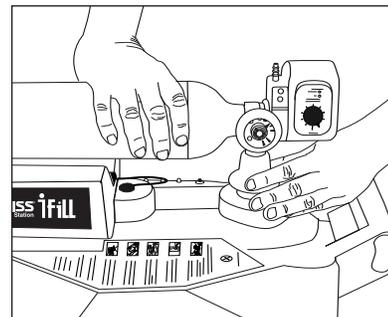

Figure 4
1. Remove the full oxygen cylinder by pushing down on the fill port collar located under the cylinder nipple connector while using your other hand to steady the cylinder (Figure 4).
4. Perform one (1) of the following steps: